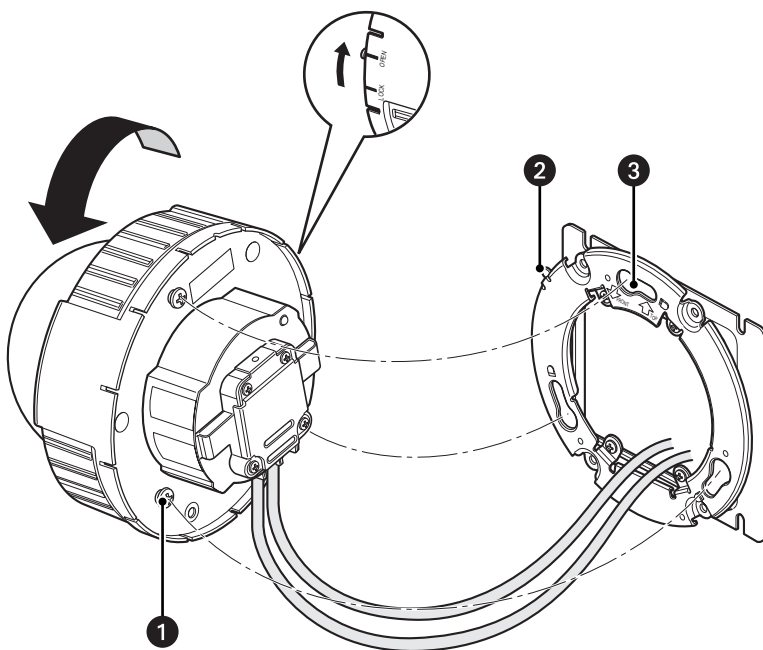

Figure 7. Mounting the Camera on a 2-Gang Junction Box
- ① 2-Gang Junction Box
- ② Camera Attachment
2. Mount the camera (refer to Figure 7 on page 23):